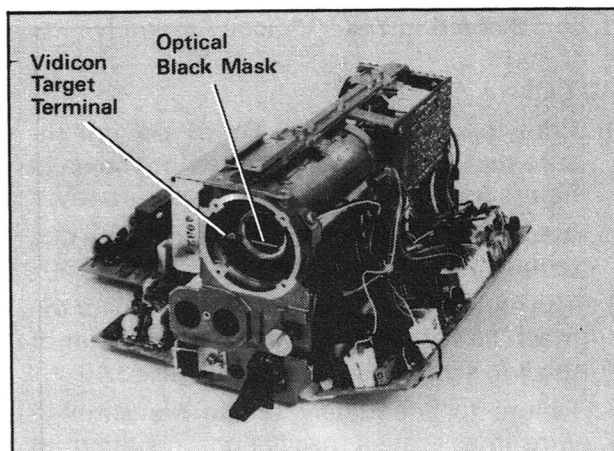

Fig 3.15 Vidicon Position Adjustment
1. When adjusting the vidicon, ensure that the optical black mask is in the lower horizontal position as shown in Figure 3.15
- (6) Cut the restraining harness band in order that the connectors **E** and **F** can be withdrawn from PCB CA 4501A
- (7) Remove the target output wire, soldered to the vidicon target terminal as shown in Figure 3.15
- (8) Remove the DY by withdrawing it backwards
- (9) Remove the vidicon through the front of the DY.
- (3) Remember to solder the wire to the target terminal, as shown in Figure 3.15.